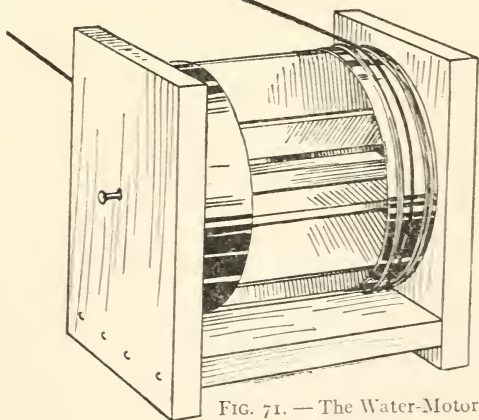

FIG. 71. — The Water-Motor Wheel.
**To Mount the Wheel** upon the supports, withdraw the nails driven into the ends of axle *B*, slip the wheel between uprights *G*, and drive the nails through the holes in *G* back into the holes in the axle ends (Fig. 71).